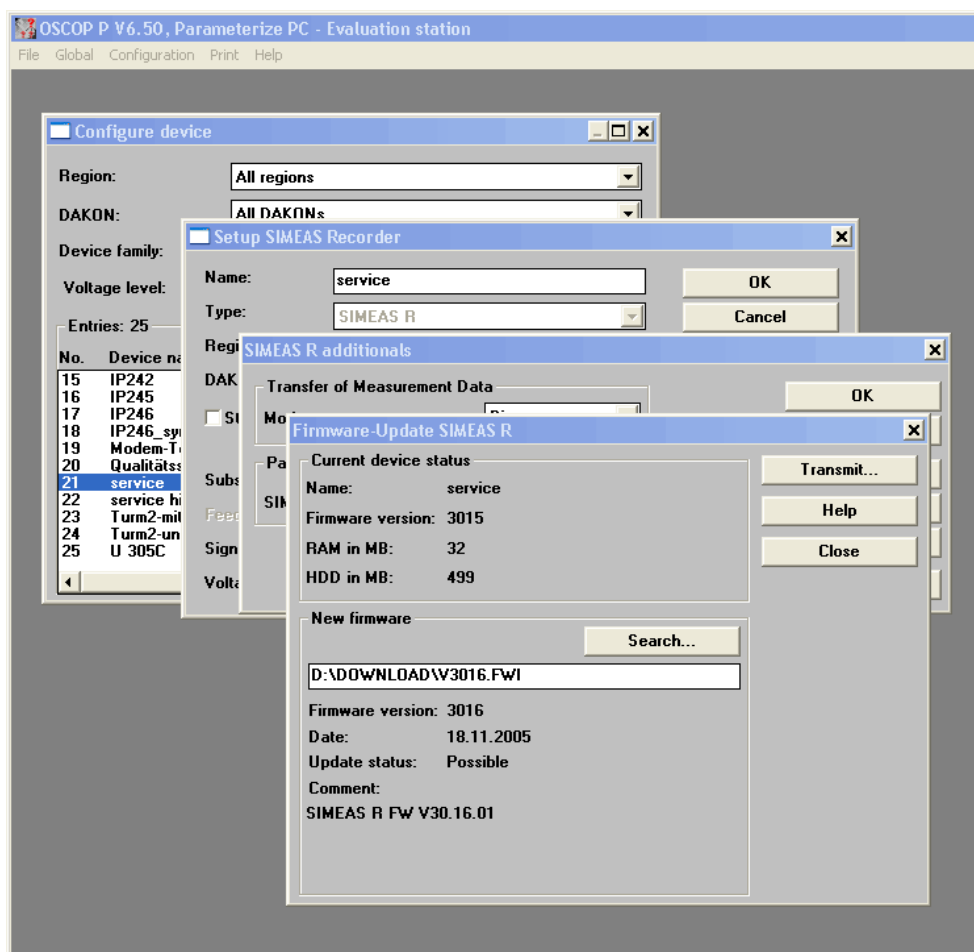

Figure 3: Firmware update via OSCOP P version 6.50.19
- Select the menu **Configuration** sub menu **Devices**.... A dialog named **Configure device** will appear (refer to Figure 3).
- OSCO P connects to the device automatically and determines the installed firmware version and the memory size. Go to the area **New firmware** and **Search...** for the file V3016.FWI (in Figure 3: D:\DOWNLOAD\V3016.FWI).